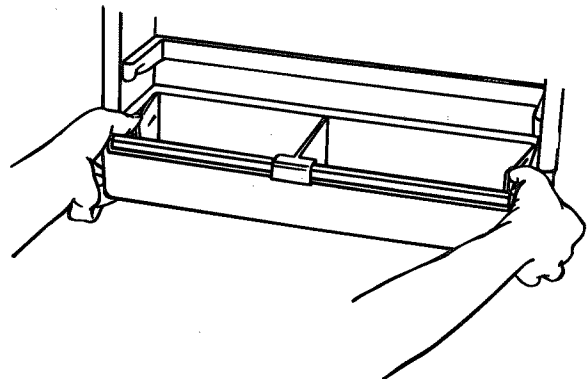

Figure 17
- Pull bucket straight out. See Figure 17.